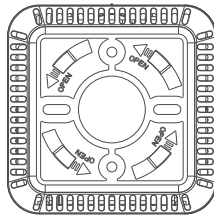

Figure 2
1.4. Open the mounting base: the bottom of the alarm is a separate mounting base. Grasp the base with your hand and turn it counterclockwise according to the label. As shown in Figure 2, 3: